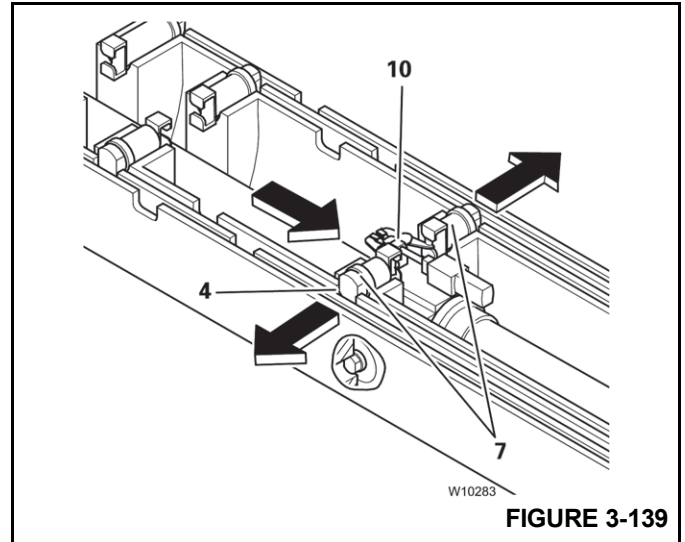

FIGURE 3-139
4. Moving, locking and engaging the telescopic section (Figure 3-139);
- b. The section locking pins (7) extend into the cutouts (4).